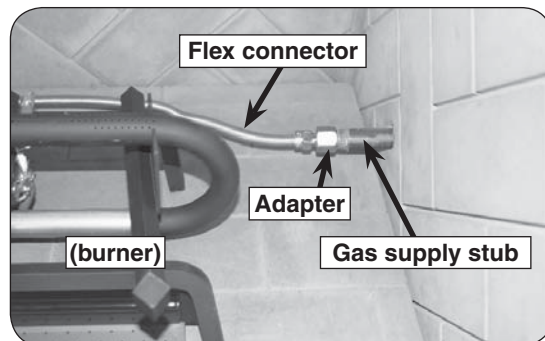

Fig. 18-1 Connect gas supply
2. Locate the gas-supply stub inside the fireplace and remove the cap, if attached (reference Fig. 18-1).
4. **Be sure gas to the fireplace is off.** Remove the adapter connected to the flex connector (pre-installed on the burner system). Attach the adapter to the gas-supply stub using a pipe compound resistant to all gasses. Tighten securely. Then attach the open end of the flex connector to the adapter. Tighten securely. (See Fig. 18-1.)